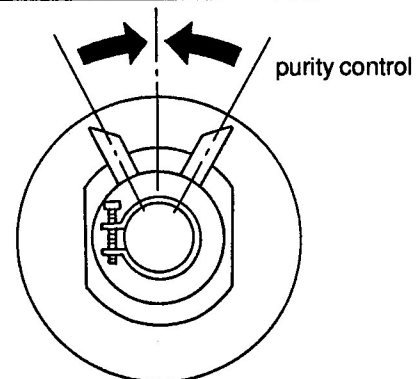

Fig.3-1
- Loosen the deflection yoke mounting screw, and set the purity control to the center as shown in Fig.3-1.